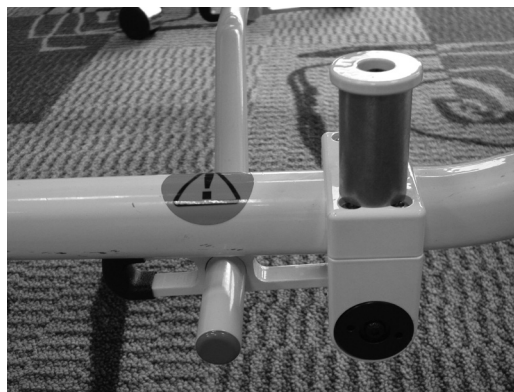

Figure 53
2. Operator 2 rolls the cot slightly forward to make sure that the kickstand retracts on its own as shown in Figure 53.